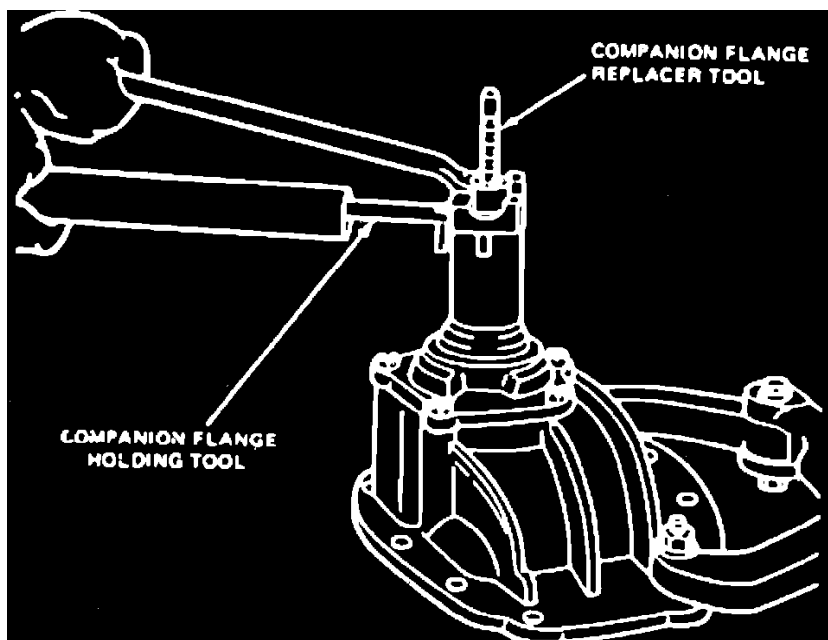

Fig. 8 Installing Companion Flange
7. Install companion flange, **Fig. 8**.